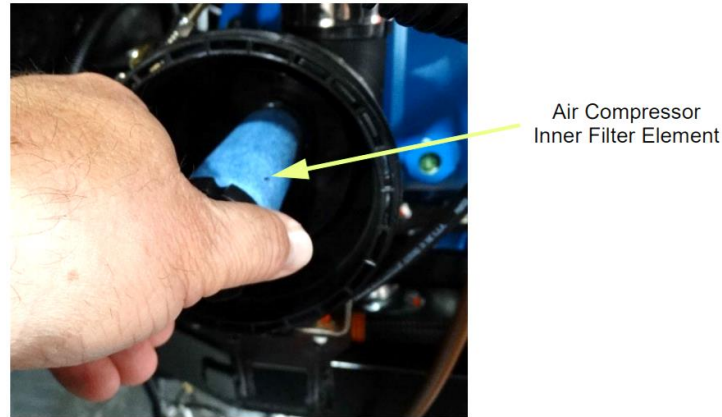

Figure 8: Air Compressor Inner Filter Element
18. Carefully remove the small inner filter element, shown in Figure 8, from inside the filter canister and discard.